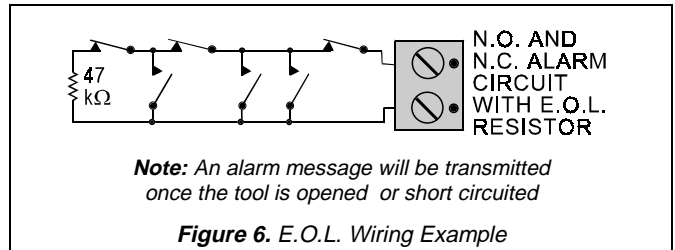

Figure 6. E.O.L. Wiring Example
- C. If the auxiliary input is defined as an E.O.L. type (SW-2 set to ON), Normally Closed (N.C.) as well as Normally Open (N.O.) sensor contacts can be used. A 47kΩ E.O.L. resistor must be wired at the far end of the zone loop, as in Figure 6.